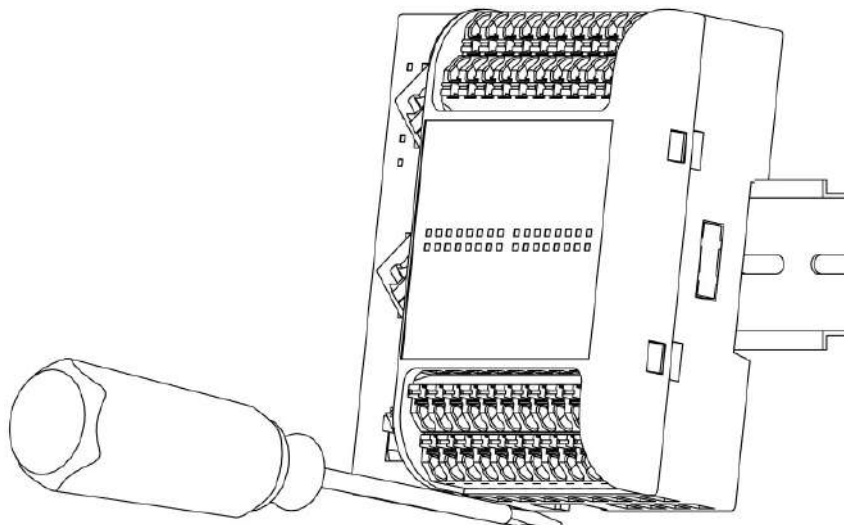

Figure 3-3 Module removal
2. Gently pull the module out and the guide rail forms an angle, and then pushes the module out of the net, as shown in Figure 3-3 shown.